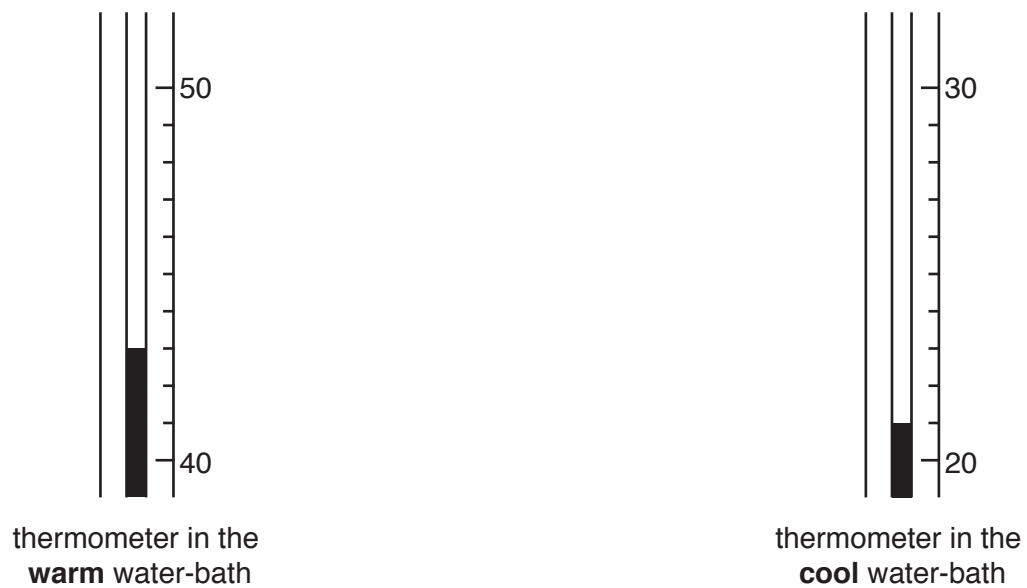

**Fig. 1.3**
Step 4 At the end of the investigation the final temperature of the water in both water-baths was measured. The results are shown in Fig. 1.3.
- (ii) Use the information in step 2 and Fig. 1.3 to complete Table 1.1.